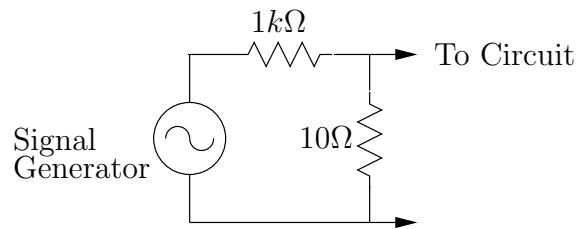

Figure 4: Attenuation Circuit
2. The driving source impedance in this lab must be low. A resistive divider attenuating the signal generator output and located close to the pseudo op-amp is suggested. A suggested attenuator is shown in Figure 4. Note that the output of the attenuator (To circuit) provides the input to your amplifier setup (V_{in}).